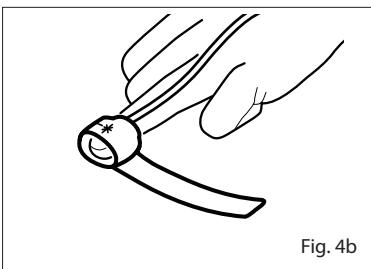

Fig. 4b
3. Refer to Fig. 4b. Wrap the adhesive wrap around the finger so the emitter window (\*) aligns on the top of the finger directly opposite the detector. Complete coverage of the detector window is needed to ensure accurate data.